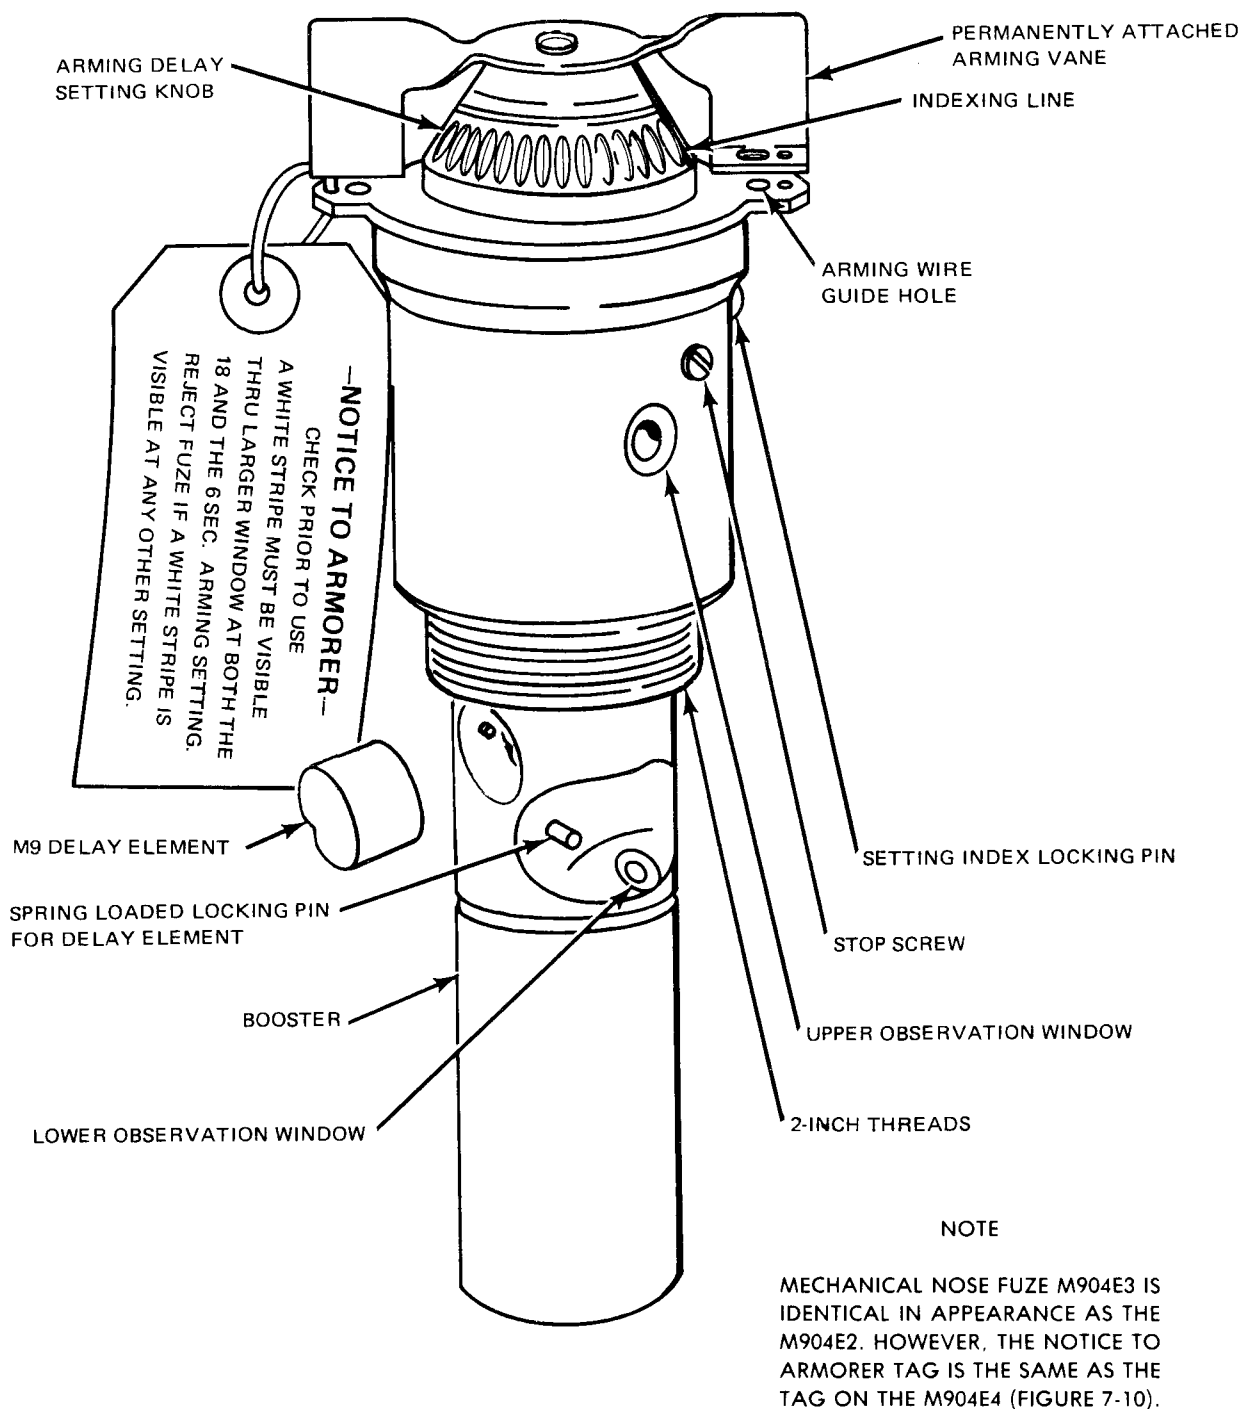
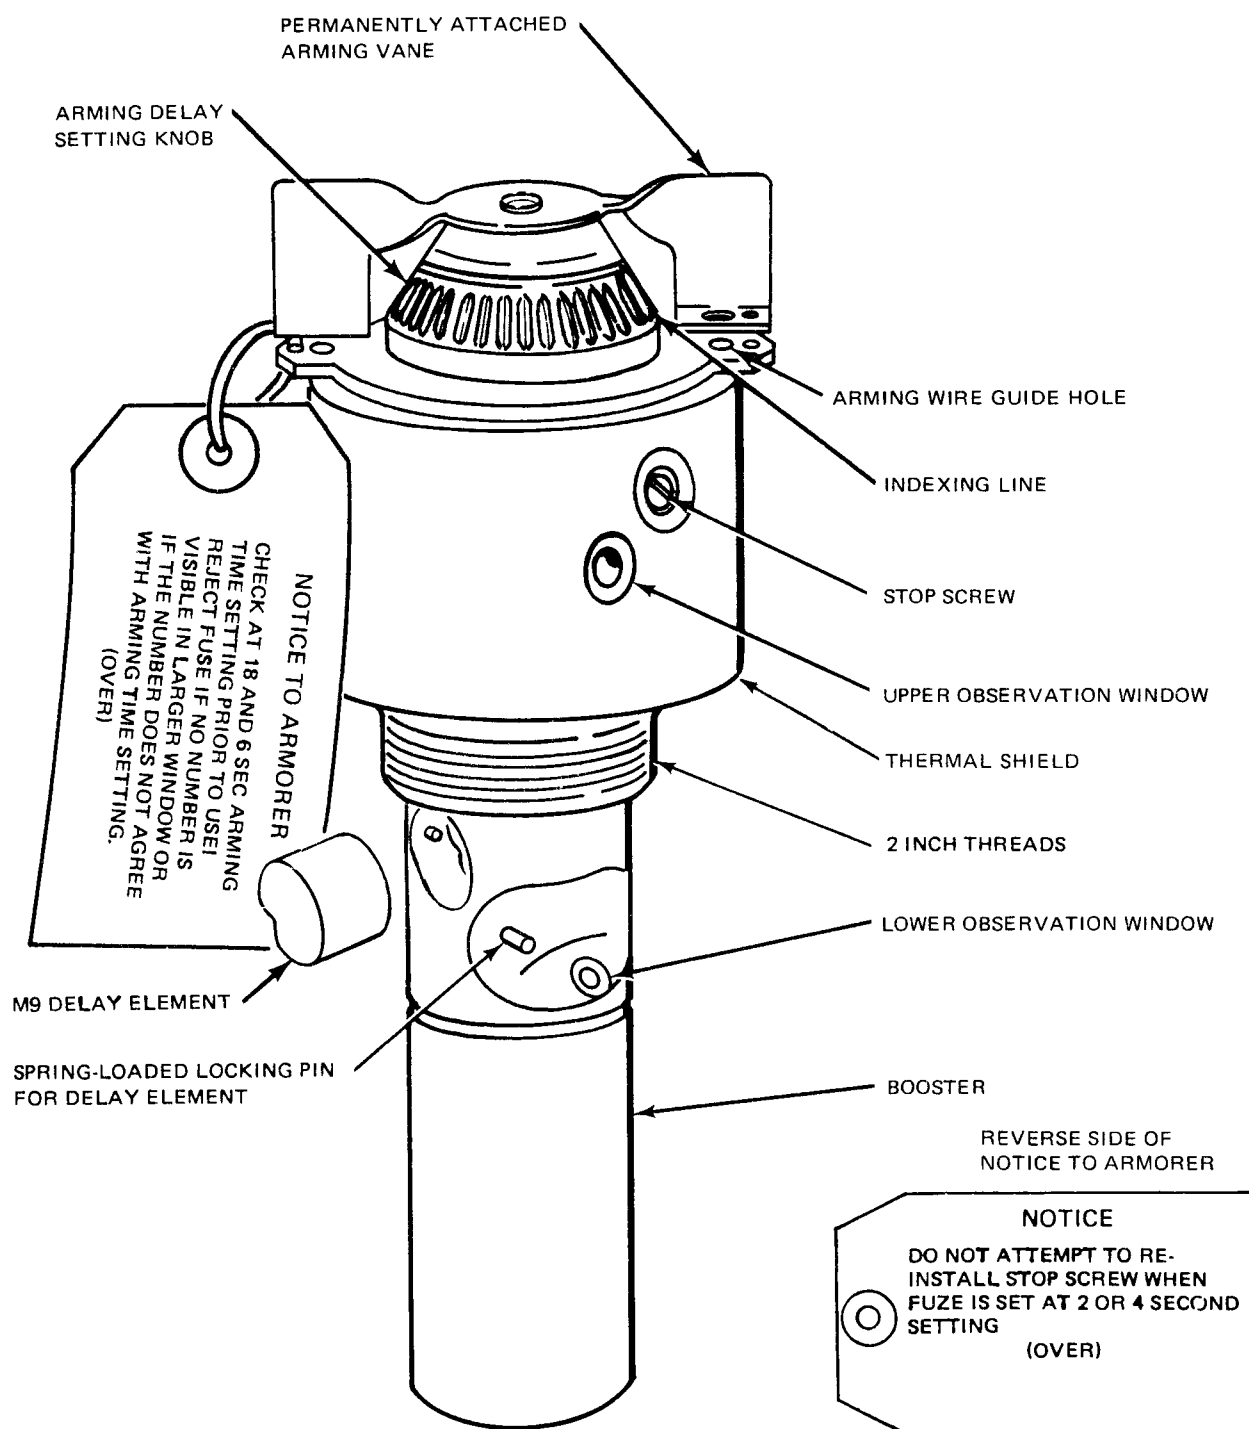

Figure 7-9. Mechanical Nose Fuze M904E2
Figure 7-10. Mechanical Nose Fuze M904E4
7-62. MECHANICAL IMPACT NOSE FUZE M904E2, M904E3, AND M904E4. Fuzes M904E2 and M904E3 (figure 7-9) provide nine preflight selectable arming delays from 2 to 18 seconds and six preflight selectable functioning delays from instantaneous to 0.25 seconds. Any arming time selected will remain constant for all release speeds above 175 knots. Fuze M904E4 (figure 7-10) is operationally the same as M904E2 and M904E3. It differs only in that it has a preformed, heat-resistant collar surrounding the exposed portion of the fuze body to provide shielding against fire and intense heat.
7-64. The detonator-safe M904E2/E3/E4 contains two observation windows (figures 7-9 and 7-10) through which the safe or armed condition of the fuze may be observed. Three conditions may be identified: safe, partially armed, and fully armed. Fuzes M904E2, M904E3 and M904E4 are similar in their intended function and operation.
7-73. The fuze M904E4 is mechanically identical to the M904E3. It can be easily identified by the light-colored thermally protected sleeve cemented to the outer portion of the fuze. Three holes in the sleeve allow access to the setting index lock pin, stop screw, and upper observation window (figure 7-10).
7-75. Safety. The safe/armed condition of the M904E2/E3/E4 fuze is indicated by the presence or absence of a colored band in both observation windows (figure 7-9). Because the upper window is external to the fuze well, the condition of the fuze may be observed after fuze installation is complete. Refer to section II and OP 3347 for additional safety precautions.
- a. Remove previously installed delay element M9 by depressing spring-loaded locking pin (figure 7-10) on side of fuze body. Hold fuze so that delay element slides out of fuze body into the hand.